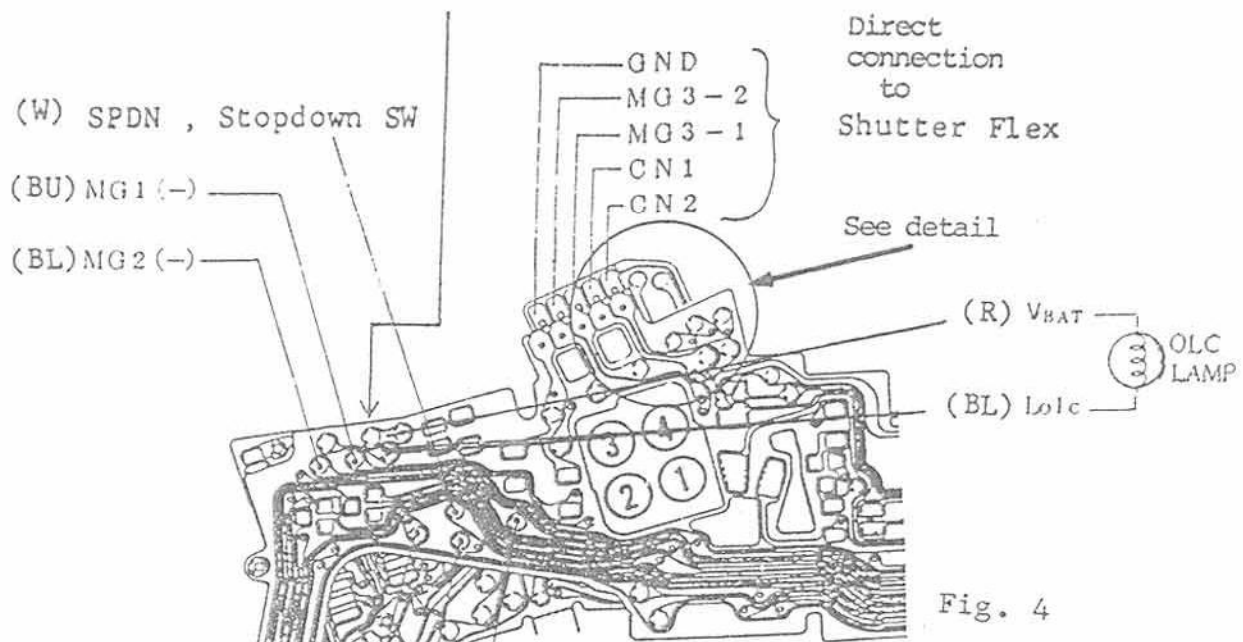

Fig. 4
2. Unsolder La1 leads (pg. 18, fig. 4) from intermediate pads.